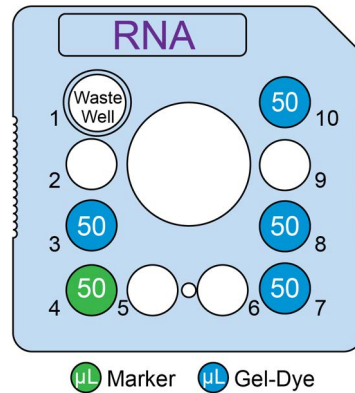
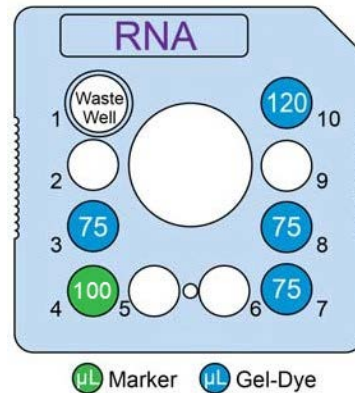

Figure 2. Low-throughput chip preparation
Figure 3. High-throughput chip preparation
- 5 Using a reverse pipetting technique, add **Gel-Dye solution** to chip wells 3, 7, 8, and 10 as shown in Figure 2 (Low-throughput) or Figure 3 (High-throughput).
- 6** Add **50 µL** (Low-throughput) or **100 µL** (High-throughput) of **Small RNA Marker** (green cap ●) to **chip well 4** as shown in Figure 2 or Figure 3.